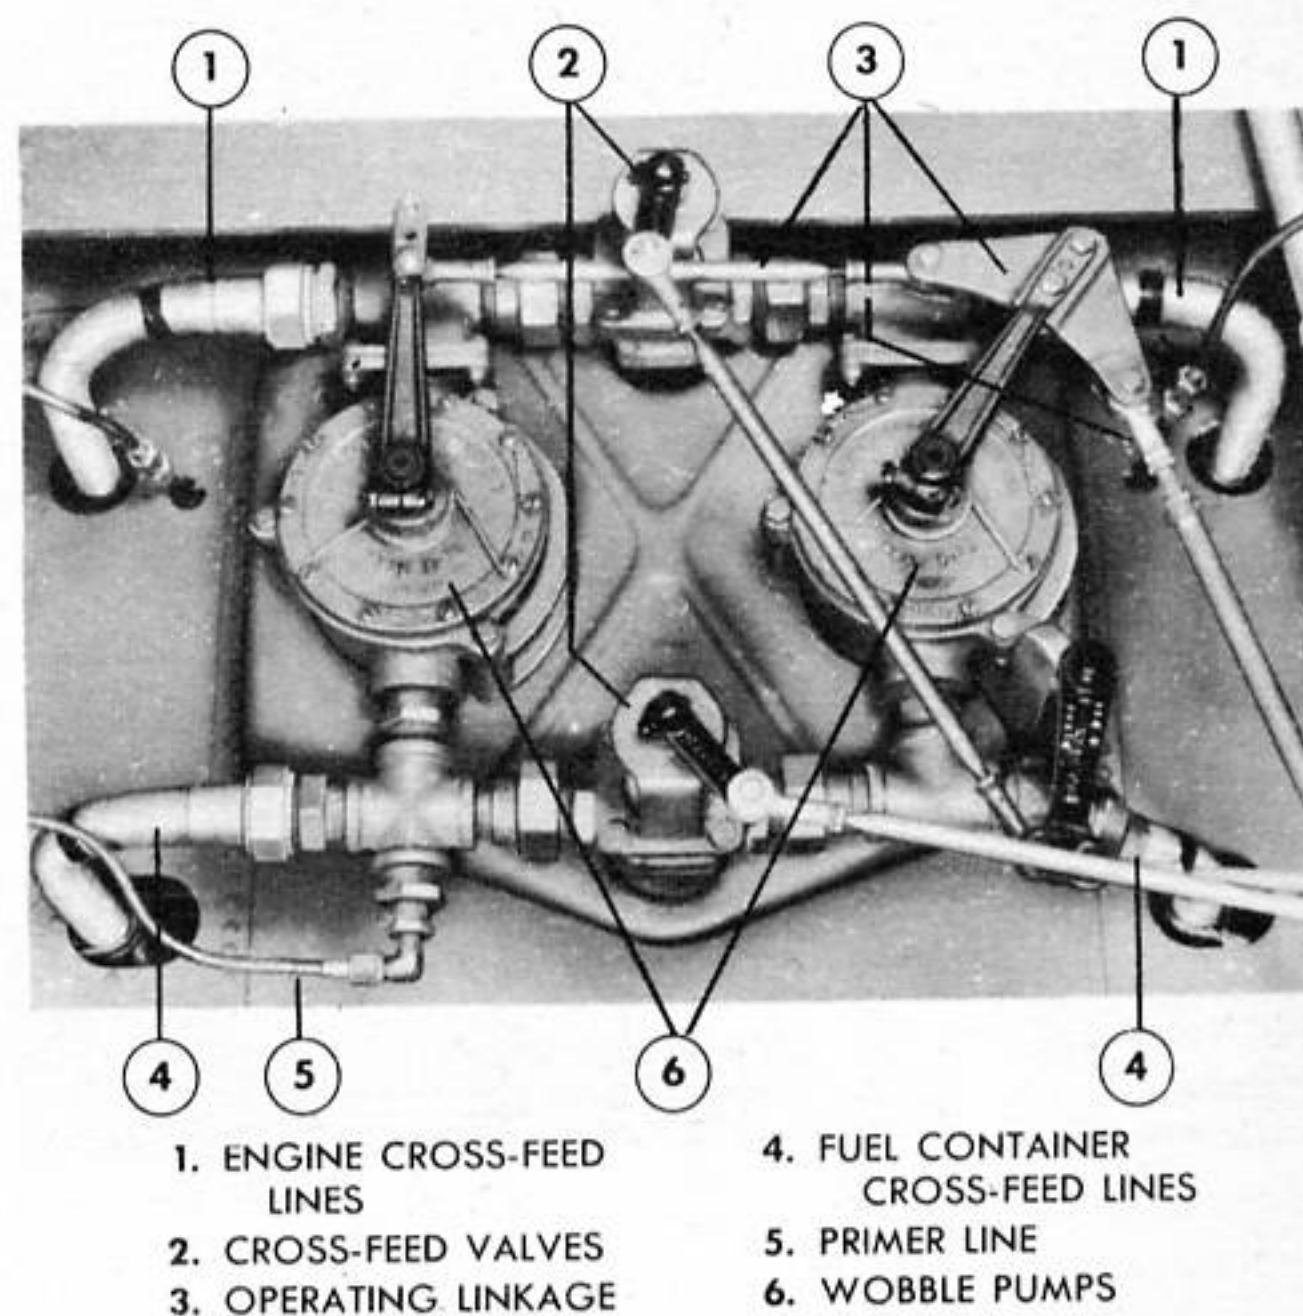

Figure 143 - INSTALLED WOBBLE PUMPS
(6) WOBBLE PUMPS. (See figure 143.) - The two wobble pumps are manually operated auxiliary fuel pumps located on a bulkhead forward of Station 156. Both pumps are operated simultaneously by a handle which extends upward from the floor at the left side of the pilot's seat. (See figure 156.) Push-pull rods connect the pilot's control handle to the actuating linkage at Station 156. The tie rods to the pump cranks hold the right-hand wobble pump crank (looking forward) in an upright position and the left-hand pump crank at 45 degrees to the left of vertical when the pilot's operating handle is midway of its stroke (figure 159) or vertical. On airplanes No. 42-53535 to 42-54284 another control